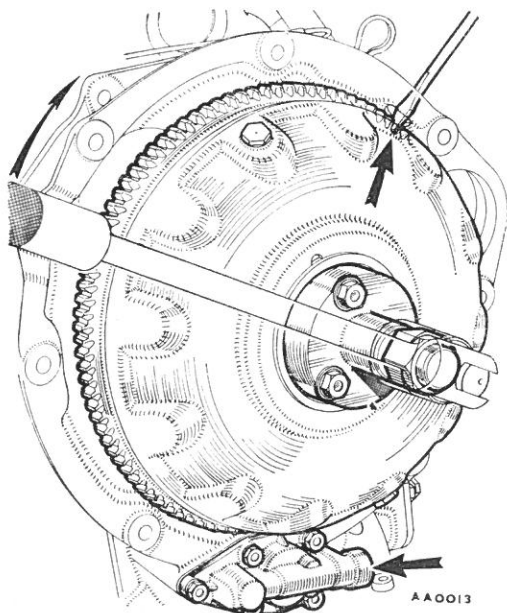
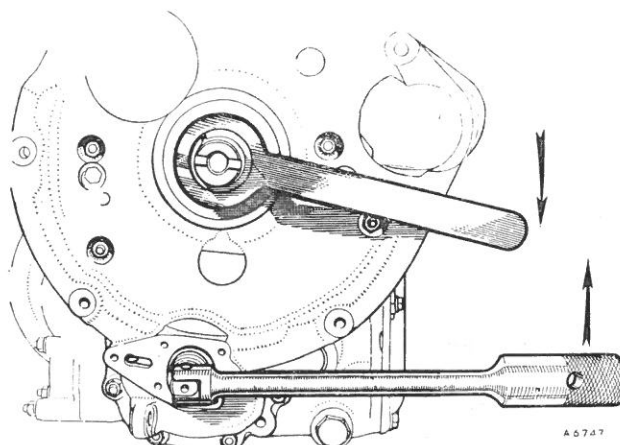

Fig. Aa.7
Fig. Aa.8
- (6) Knock back the locking tabs and remove three equally spaced set screws from the converter centre. Ensure that the slot in the end of the crankshaft is horizontal. Using Service tool 18G 1086 with the adaptor correctly positioned, remove the converter (Fig. Aa.7).
- (7) Remove the low-pressure valve from the converter housing.
- (8) Fit Service tool 18G 1088 onto the converter output gear and remove the input gear self-locking nut (Fig. Aa.8).